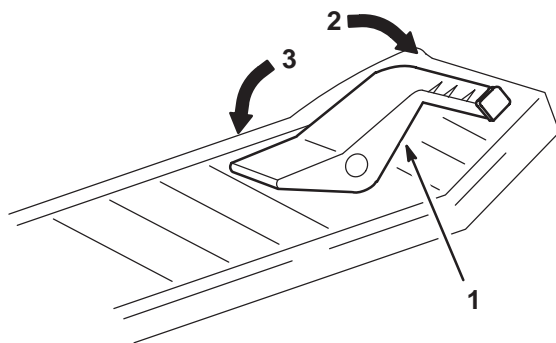

Figure 13
2. Place your foot on the ground speed pedal (Fig. 13) and slowly press on the top of the pedal to move forward or on the bottom of the pedal to move backward.